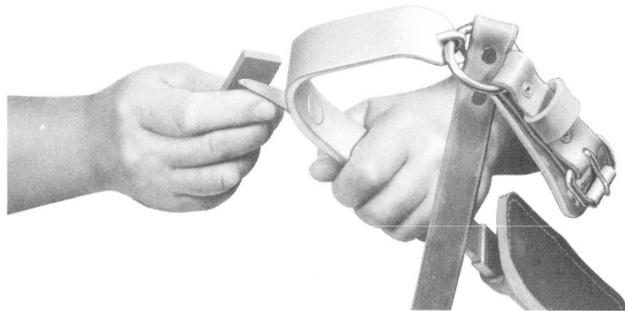

Fig. 17—Removing Burrs From Top Cutting Edge
7.03 First, if there are any small burrs along the cutting edges, remove them by holding the hone against the side of the gaff and **carefully following the edge around to the tip** as indicated in Fig. 17 and 18.